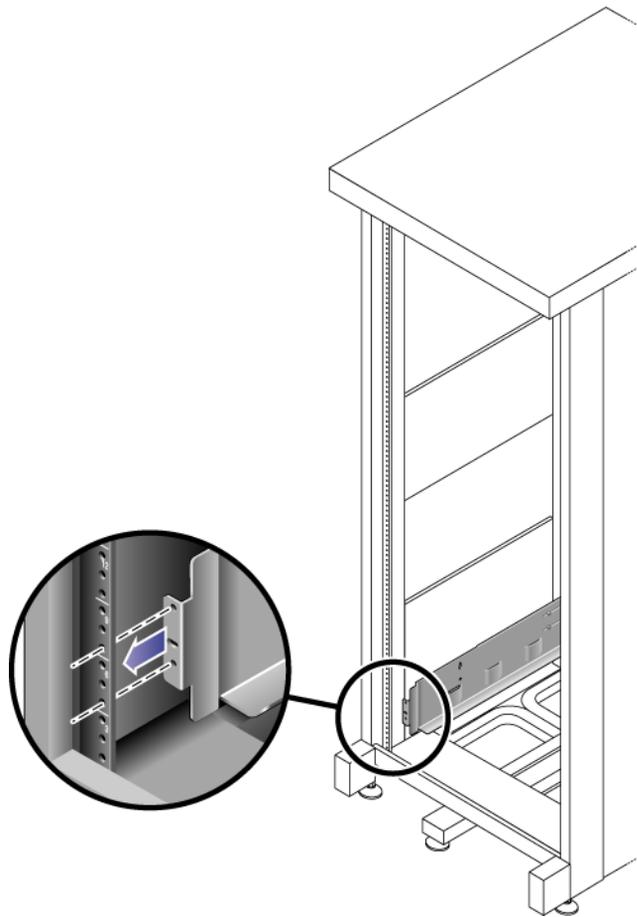

FIGURE 2-3 Positioning the Front of the Left Rail Behind the Left Front Cabinet Rail
1. Position the front of the left rail behind the left front cabinet rail (FIGURE 2-3).